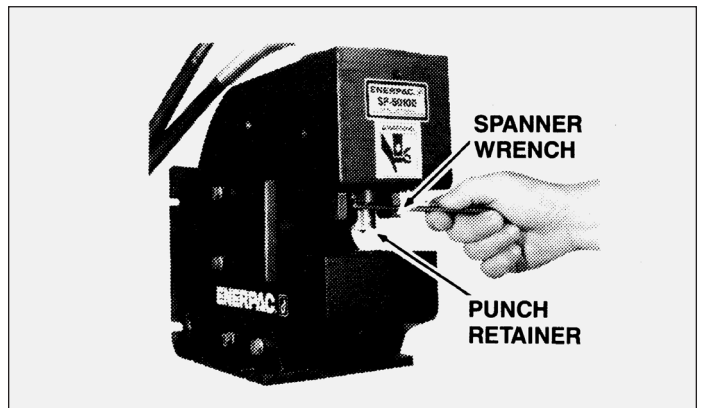

Figure 2
1. Select a punch and die, make sure they are a matched set. Using the spanner wrench, remove the punch retainer from the frame (figure 2).